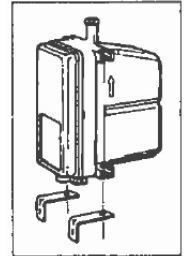

Figure 6 –Bottom Mount
- The heater has a unique multi-point mounting system that accommodates different applications. Figures 6 through 8 illustrate three possible mounting configurations. Select a mounting surface that is smooth and free of fasteners. Secure the heater in the selected location using the bolts, nuts, and lock washers provided.